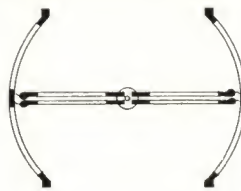
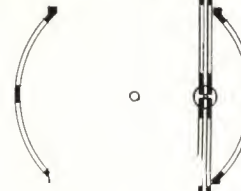

Fig. 2
Fig. 4
1. When Pivot Lifter (see page 14, Figure 4) is raised, it in turn raises arm No. T-H-4 (see position indicated by dotted lines in Fig. 2 below) which releases carriage and permits same to be rolled aside.